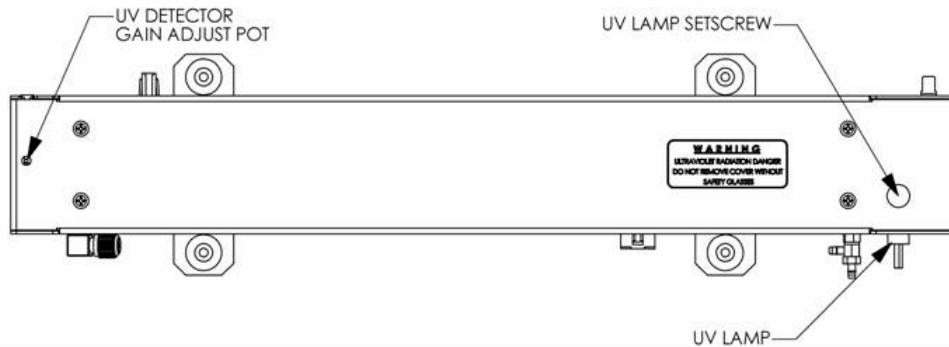

Figure 7-3: Photometer – Location of UV Detector Gain Adjustment & UV Lamp Set Screw
4. Locate the **UV DETECTOR GAIN ADJUST POT** on the photometer assembly (see Figure 7-3).
4. Locate the UV lamp at the rear of the optical bench assembly (see Figure 7-3)
9. Turn the UV detector gain adjustment pot (See Figure 7-3) clockwise to its minimum value. The pot should click softly when the limit is reached.